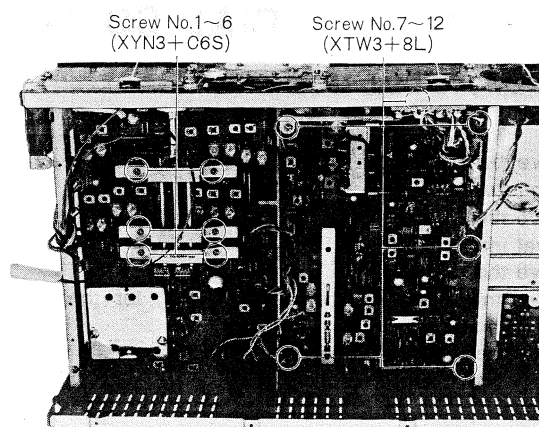

Fig. 21
4. Remove the six (6) screws (nos. 1~6) for the shaft, as shown in fig. 21.
10. Remove the six (6) screws (nos. 7~12) for the PC board, as shown in fig. 21.